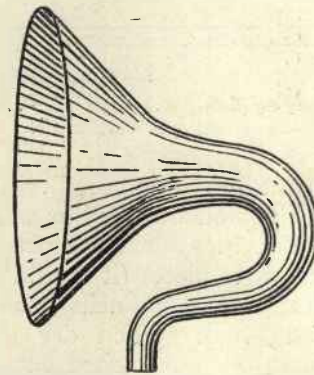
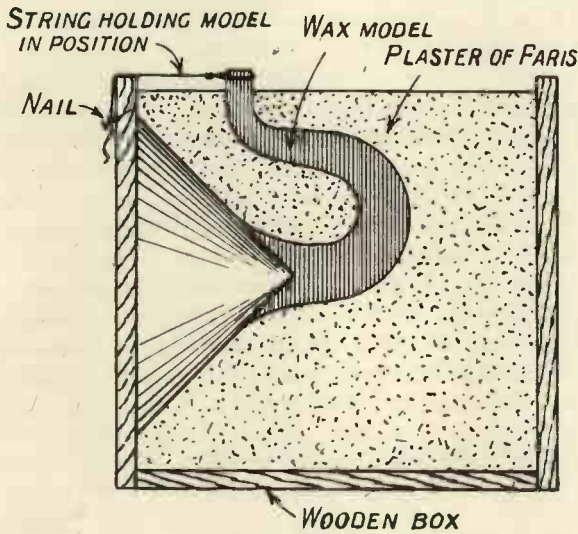
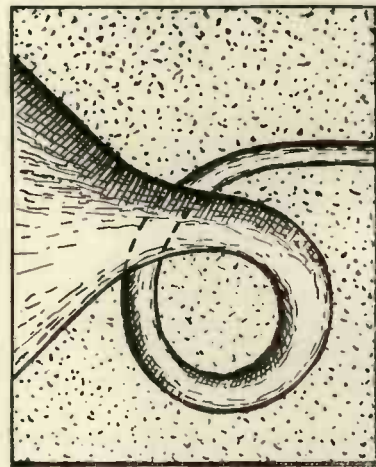

Fig. 3. Showing the shape of the first papier mâché horn made by the writer.
Fig. 4. Method of taking a Plaster of Paris cast of the wax and cardboard model.
Fig. 6. Section of a spiral Plaster of Paris "horn." This shape has much to commend it.
warm place to dry and harden. When dry, it was placed in the oven and the wax melted out, the cardboard cone being removed at the same time. This horn is very light and strong, and remarkably free from resonance effects, erring, if at all, on the side of dullness and flatness of tone. Its shape is shown in Fig. 3.
plaster from sticking to the wood). The manner of arranging the model in the box will be understood from Fig. 4. When the plaster has set, the box is taken to pieces (it should be fastened together with screws, not nails), and the block removed and dried. When dry it is placed in an oven and the wax melted out: the result is a block of plaster in which the "horn" is represented by a cavity, as shown in section
from a rather long horn of small bore, whereas the human voice, especially bass and baritone, requires a considerably larger bore to prevent "muffle." The piano I have found a most difficult instrument to suit, for it brings out every latent defect of horn, loud-speaker, interval transformer, and so on. It is particularly prone to produce horn echoes, to prevent which a spiral form is useful (Fig. 6).
(1) The narrow part of the bore should not be less than 10 in. in length, nor longer than about 30 in.
(2) The opening should be at least 10 in. in diameter.
(3) The bore should not be straight, nor parallel-sided in any part, but should taper from about 3 in. to 1 in. in diameter.
(4) The transition from the bore to the conical opening should be by a gradual fanning-out, as in Fig. 6, rather than by an abrupt change of angle, as in Fig. 4.
(5) Sharp bends and changes of direction in the bore are to be avoided, since they may cause horn echoes. Thus, Fig. 6 is a better shape than Fig. 3.